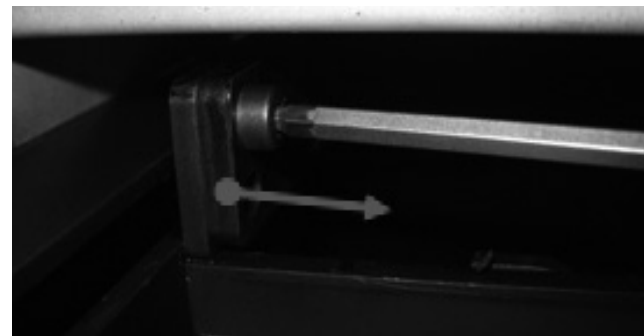

Fig. 7a
2. Unscrew the M5x10 threaded screws on both sides of the device with a 4 mm Allen wrench (ball head). Fig. 7a: View from below between glass and door hood